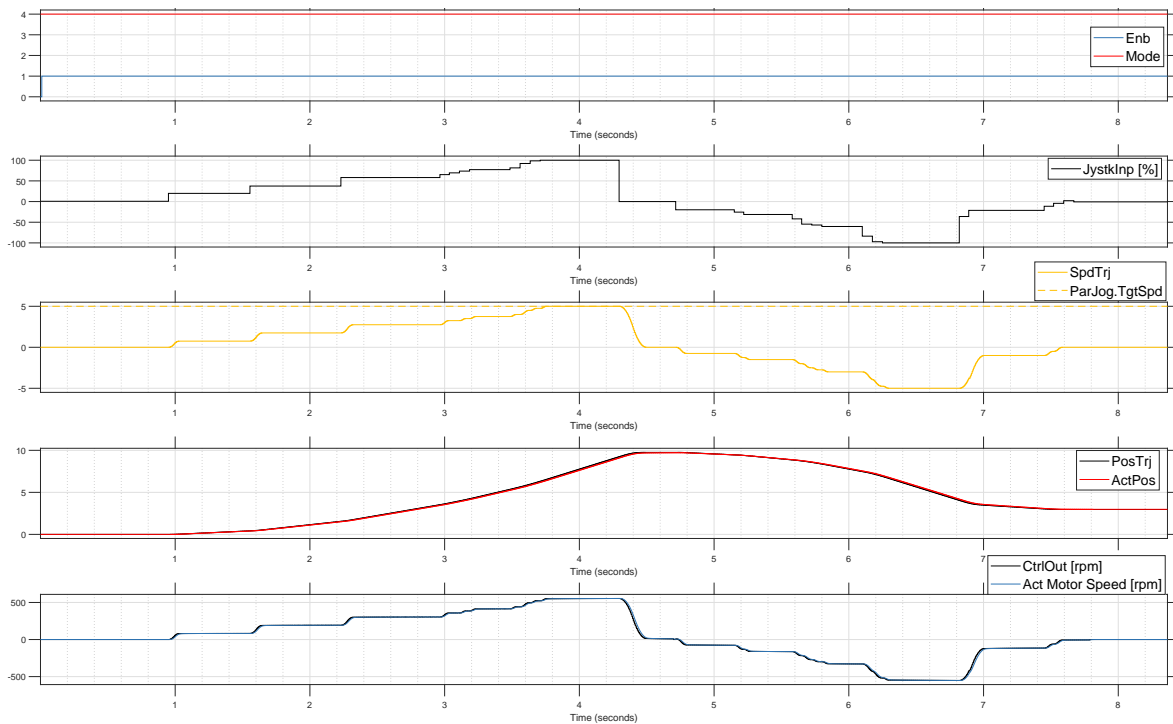

Figure 11: *Mode* = 4: Behaviour of in Jog Mode with Joystick.
- *Mode* = 4: In Mode 4, the function operates in Jog Mode with a joystick. The user can dynamically control the movement of the linear axis by adjusting the joystick. The *TgtSpd* input of the **ParJog** structure sets the maximum speed for the axis, while the joystick position determines the actual speed and direction. When the joystick is centered (neutral position), the axis decelerates and stops using the configured acceleration and jerk values, ensuring precision in manual movements. See figure 11.
The *JystkInp* input is designed to control the movement of the linear axis in Mode 4 when using a joystick for manual jogging. This input accepts a value ranging from -100 to $+100$, where the value represents both the direction and speed of the axis movement. See figure 11.